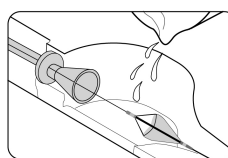
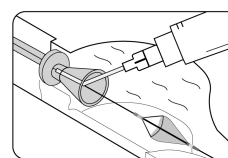
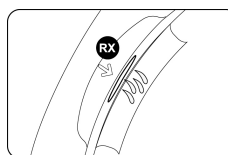

Figure 5
Figure 6
Figure 7
- Fill the recessed well area with heparinised normal saline (Figure 5) until the Filtration Element is completely immersed (Figure 6).
- Fill the provided syringe with heparinised normal saline in order to flush the Delivery Catheter. Remove air from syringe. Push the syringe tip into the core of the Loading Funnel until it engages the internal diameter of the Loading Funnel (Figure 6). Flush until heparinised normal saline can be seen exiting at the RX exit port (Figure 7).